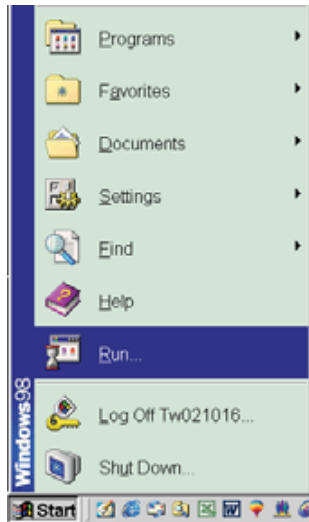

Fig. 4
2. Click , choose Run at start menu of Windows as shown in Fig. 4.